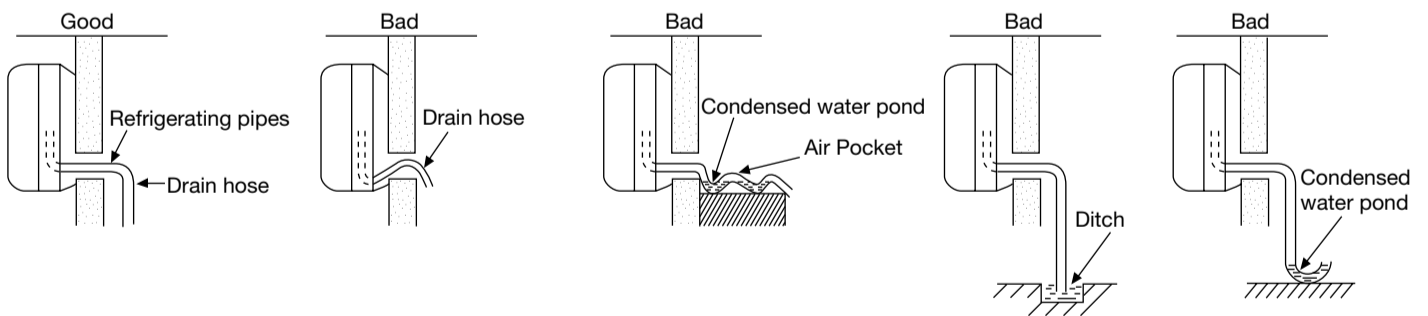

Fig. 5
- For keeping the smooth flowing of condensed water, the drain hose should be inclined as shown in Fig. 5.